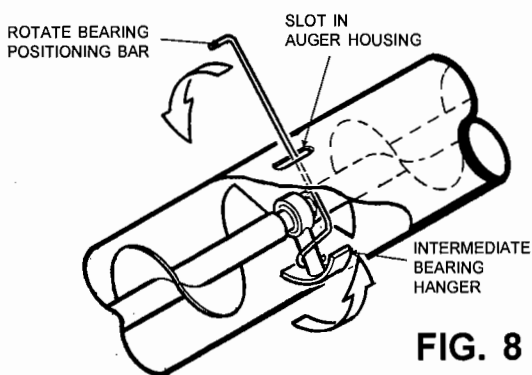

FIG. 8
- A. Insert the double bended end of bearing positioning bar into slot and hook the bearing hanger stem. Rotate the stem upward as much as possible. See Fig. 8.